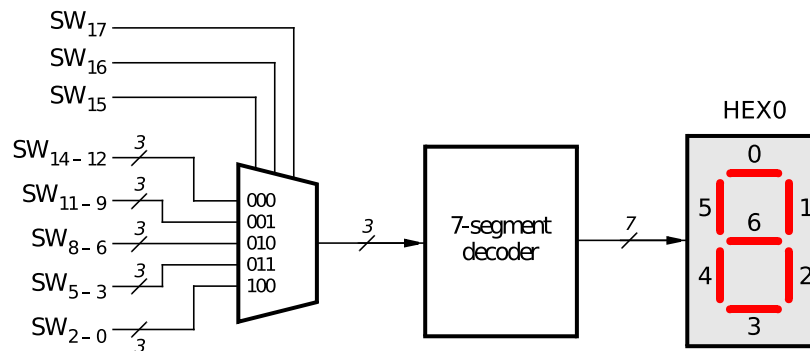

Figure 2. A circuit that can select and display one of five characters.
Consider the circuit shown in Figure 2. It uses a three-bit wide 5-to-1 multiplexer (just like the one you built in Lab #2) to enable the selection of five characters that are displayed on a 7-segment display. Using the 7-segment decoder from Part I this circuit can display any of the five digits and 'blank'. The character codes are set according to Table 1 by using the switches  $SW_{14-0}$ , and a specific character is selected for display by setting the switches  $SW_{17-15}$ .
To build this circuit you can reuse two smaller designs already created: the three-bit 5-to-1 multiplexer from Part IV of Lab 2 and the 7-segment decoder from Part I of this lab. Your task is to create a new *top-level* design that implements the circuit in Figure 2 using the multiplexer and decoder as subcircuits. You are to design this top-level circuit twice, using two different approaches:
2. Create the top-level design by writing complete Verilog code for the circuit in Figure 2. An outline of this code, which shows how to include the multiplexer and decoder subcircuits in the top-level Verilog module, is given in Figure 3.
4. In Quartus II use the command **File > New** to create a new Block Diagram file and draw the circuit in Figure 2. Insert the symbols for the subcircuits created above, insert input and output ports, and draw the wiring connections shown in Figure 2.